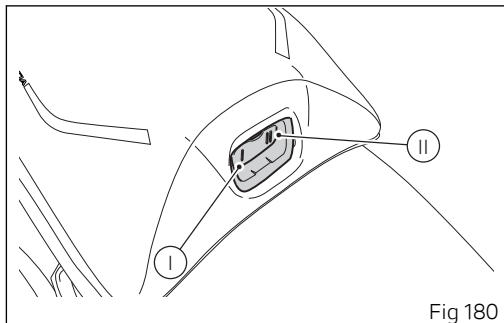

Fig 180
- position (I, Fig 180) to set the level to "Low";
- position (II, Fig 180) to set the level to "High".